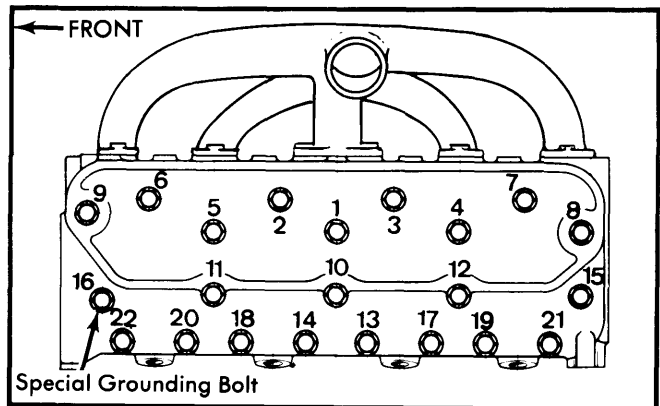

Fig. 1 Cylinder Head Bolt Tightening Sequence
2) Remove water pump bolt, valve cover, rocker shaft assembly and push rods. Gradually loosen cylinder head bolts in sequence shown in Fig. 1. Remove cylinder head using levers (0.0149).
4) Install cylinder head guides (8.0114) in bolt holes 15 and 16. See Fig. 1. Install the correct thickness gasket dry. Place cylinder head over guides and install remaining bolts, noting
6) Tighten cylinder head bolts in 1st step to 22 ft. lbs. (30 N•m) in sequence shown in Fig. 1. In 2nd step, tighten in sequence Turbo bolts to 51 ft. lbs. (69 N•m), non-Turbo to 47 ft. lbs. (64 N•m). Third and final step consists of loosening each bolt (1 at a time in sequence) 1/4 turn and retightening.
NOTE — Cylinder head bolts must be retightened after 30-60 miles and again after 1000-1500 miles. Engine must be allowed to cool 6 hours before retightening bolts. To retighten, loosen bolt 1/4 turn (1 bolt at a time) and tighten to final torque following sequence shown in Fig. 1.